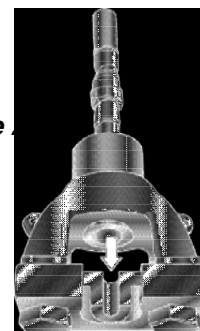

Figure 2
1. Insert "U-shaped" Nut Support ring into the back-up plate of the Hydraulic Ram as shown in Figure 2.